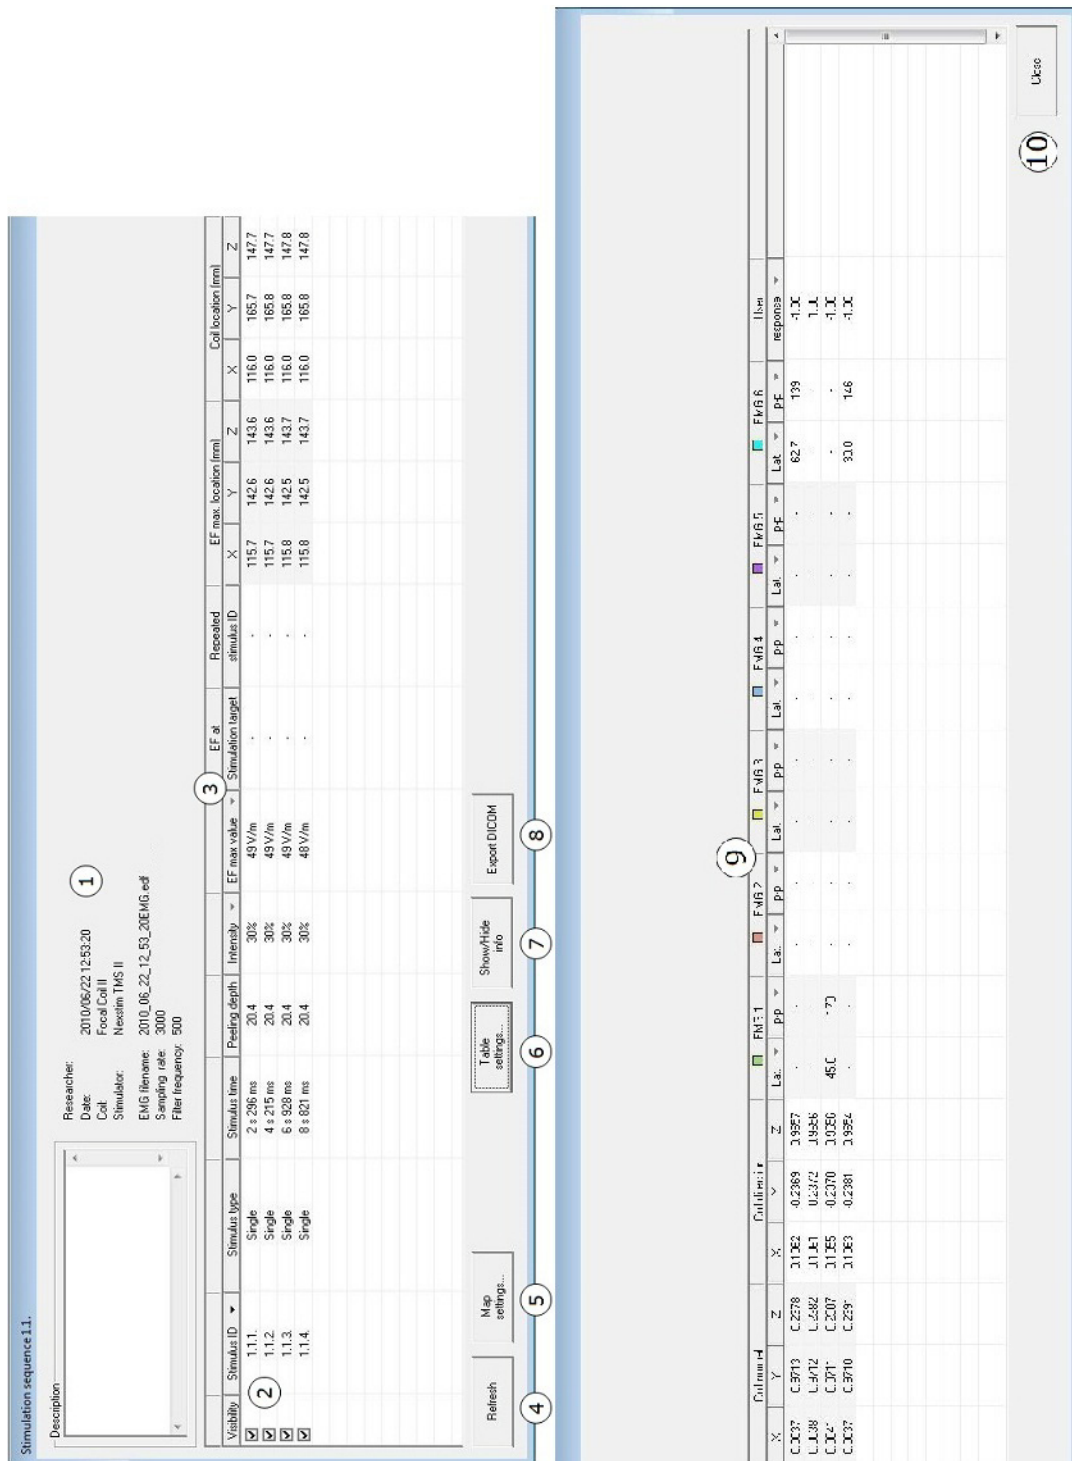

Fig. 118. Analysis Table (divided in two views)
2. The **Analysis Table** -dialog opens. See Figure 118 and Table 37.